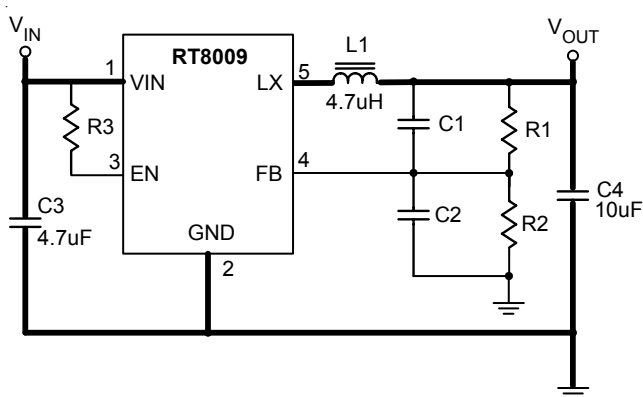

Figure 6. EVB Schematic
- For the main current paths as indicated in bold lines in Figure 6 keep their traces short and wide.